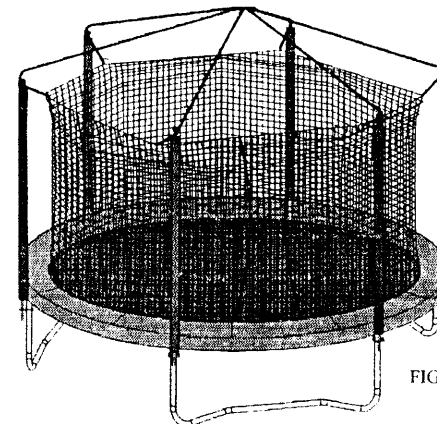

FIGURE 4
**FOR A Model:** Put tube into the connector. (See figure 4)